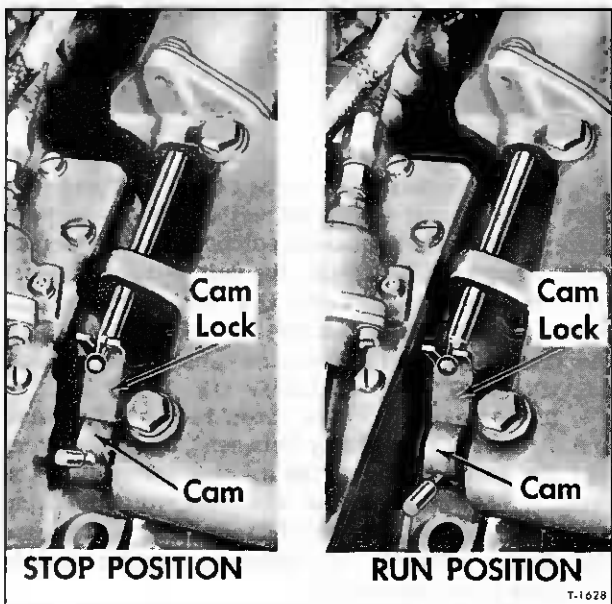

Figure 6—Emergency Stop Mechanism
Emergency stop solenoid assembly (figs. 6 and 7) is installed at engine blower housing and releases a choke valve to shut off air and stop engine in case engine cannot be stopped normally.
1. Be sure coil wire is securely attached to lug on terminal (1), then install cover (2), on case and coil assembly (3), and attach with two screws (9) and washers (8).
2. Place spring (7) in counterbore in plunger, then insert plunger into place in case and coil assembly. Slide plate (5) with gasket (4) on solenoid rod and bend tangs on case to hold plate (5) in place.
3. Insert plunger rod through guide on blower housing, and install two mounting bolts. Engage cam lock with plunger rod and bolt lock to blower housing. Attach wire to terminal (1). Figure 6 shows the solenoid and mechanism installed.
NOTE: Cam (fig. 6) must be set in "RUN POSITION" before engine can be started.